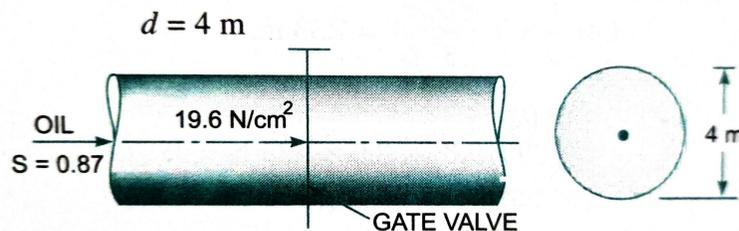

Figure 2
- b) A pipe line which is 4 m in diameter contains a gate valve as shown in Figure 2. The pressure at the centre of the pipe is 19.6 N/cm^2 . If the pipe is filled with oil of specific gravity 0.87, determine the force exerted by the oil upon the gate and position of centre of pressure. 8 CO1 [K₃]